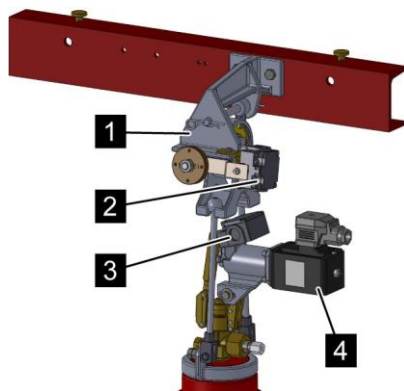

Fig. 35: Pneumatic release device (PAE)
- Weighing device (Fig. 35/1)
- Leakage monitoring (Fig. 35/2)
- Monitoring of the EM release device (Fig. 35/3)
- EM release device (Fig. 35/4)